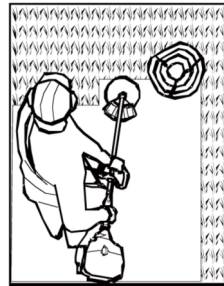

FIG. 24
2. Pay special attention when performing the work close to trees and bushes. The cutting heads could damage sensitive bark, and damage fence posts (Fig. 24).